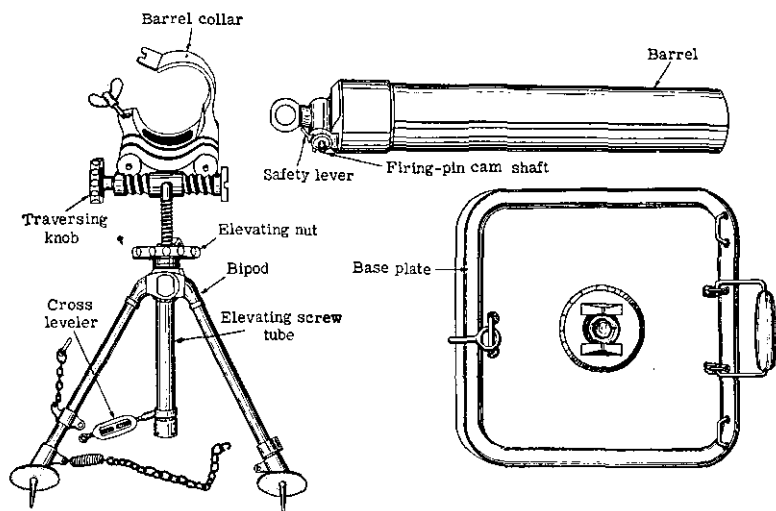

Figure 97.—Model 99 (1939) 81-mm mortar disassembled.
When ready to fire, load the piece according to the following instructions. With the smaller 7.2-pound shell, hold the shell in one hand and place the shell, fins first, in the muzzle, guiding it with the other hand. However, with the heavier 14.3-pound shell, the shell must be held in both hands in order to place it in the muzzle. At the signal to fire, with either shell, allow the projectile to slide down the barrel, and at the same time clear both your hands from the muzzle. To fire, strike the firing-pin cam shaft (see fig. 97)
(2) *Stripping.*—The mortar may be broken down into three parts (fig. 97). First, the bipod may be removed by unlocking the thumbscrew on the side of the barrel collar. Next, the barrel may be removed from the base plate by freeing the ball of the base cap